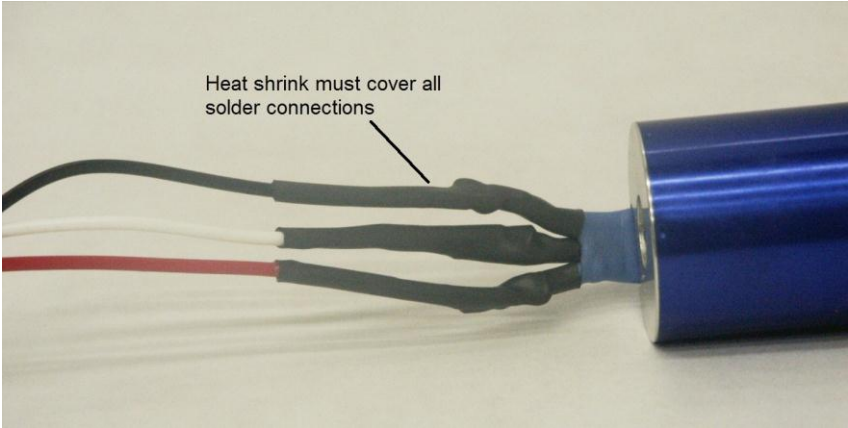

Figure 2-9
- After all connections are soldered, slide over and apply the thinner heat shrinks to cover the three connections. (Figure 2-9)